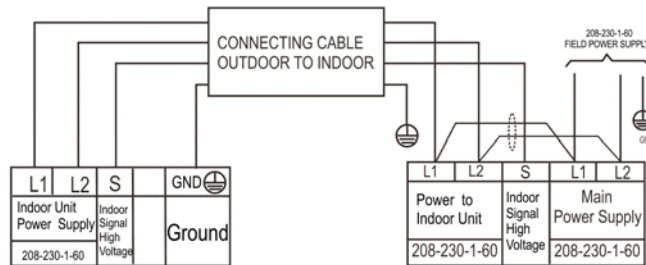
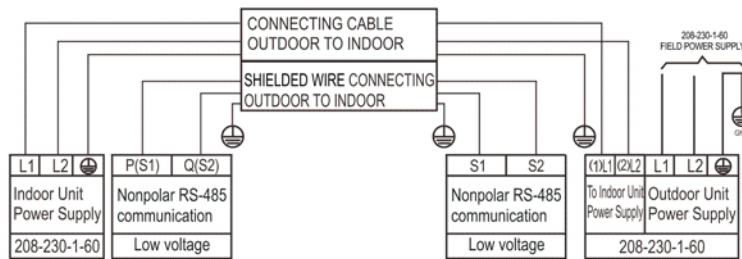

Fig. 39 – Connection Diagrams (sizes 09 to 24)
Fig. 40 – Connection Diagrams (sizes 36 and 58)
2. Connect wiring from outdoor unit per the connection diagram (see Fig. 39 and Fig. 40).